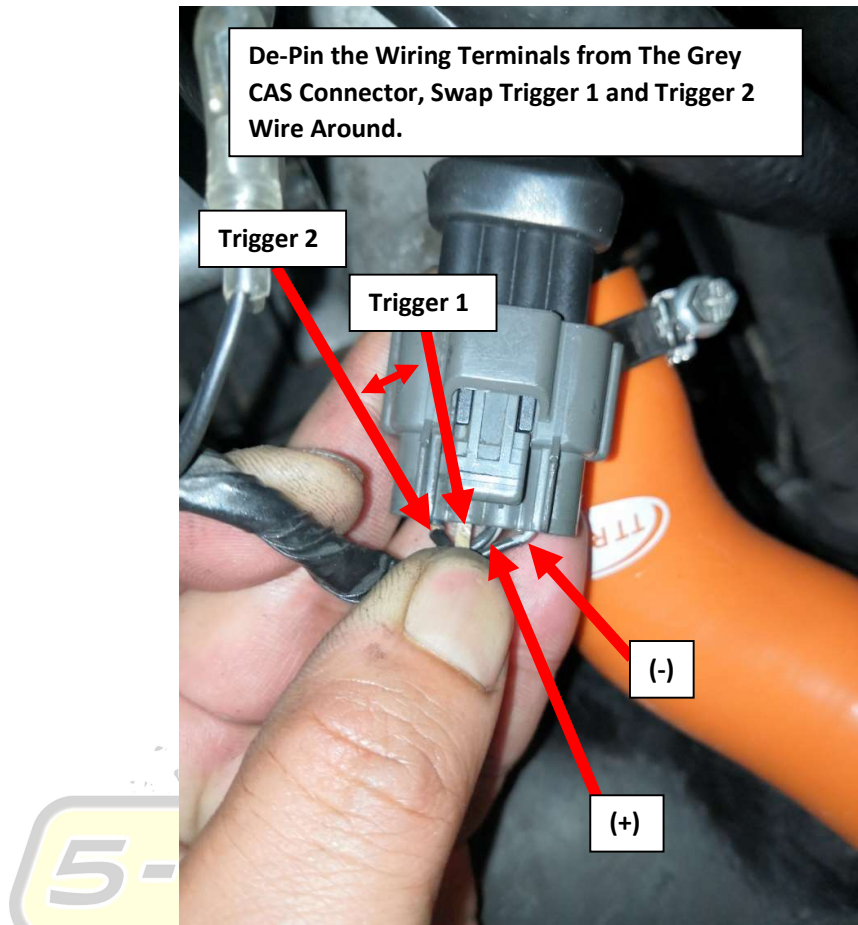

Figure 19 - Swapping Trigger Wires Around (Required on Some ECUs)
**NOTE: Some ECUs will require you to swap the two trigger wires to output the right signals into the ECU. Refer to the troubleshooting section and figure 19.**
Sensors are outputting signal but engine does not start. Continuous miss counts.	<ul style="list-style-type: none"> <li>Swap the 120° and the 1° sensor wiring on the 4-pin grey CAS connector (refer to figure 19).</li> </ul>